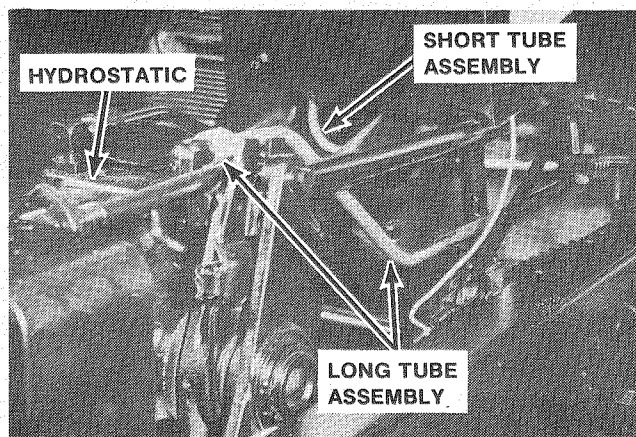

Figure 2
5. Position long oil tube assembly as shown in Figures 2 and 3. This tube runs along the right side of steering column.